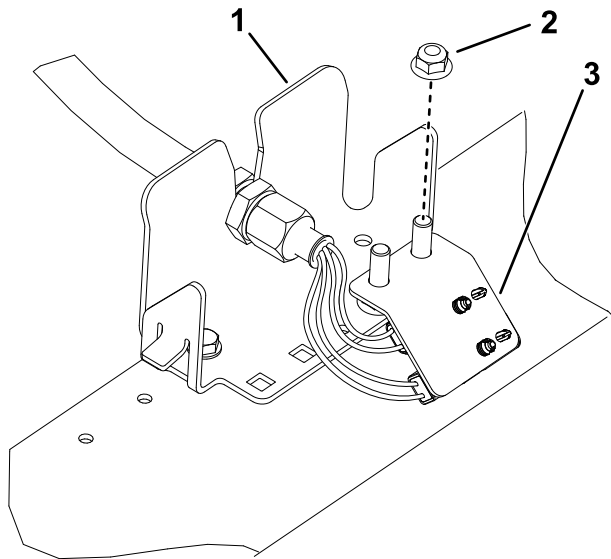
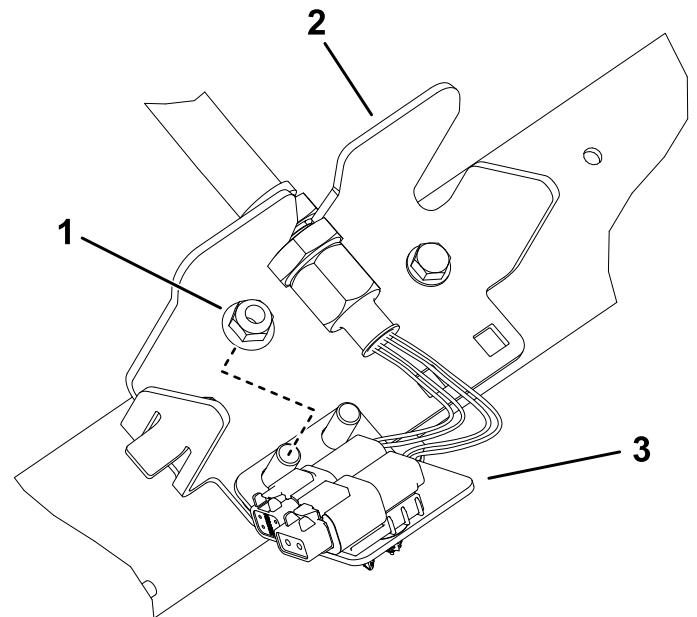

Figure 14
Figure 17
6. Repeat the procedure on the remaining 4 bulkhead locations as shown in Figure 14 through Figure 17.